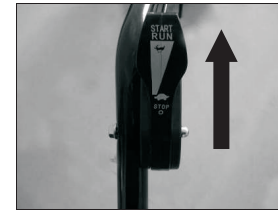

Fig. 14A
2. When starting the engine, turn the throttle choke lever to “” position, (Fig. 14A)